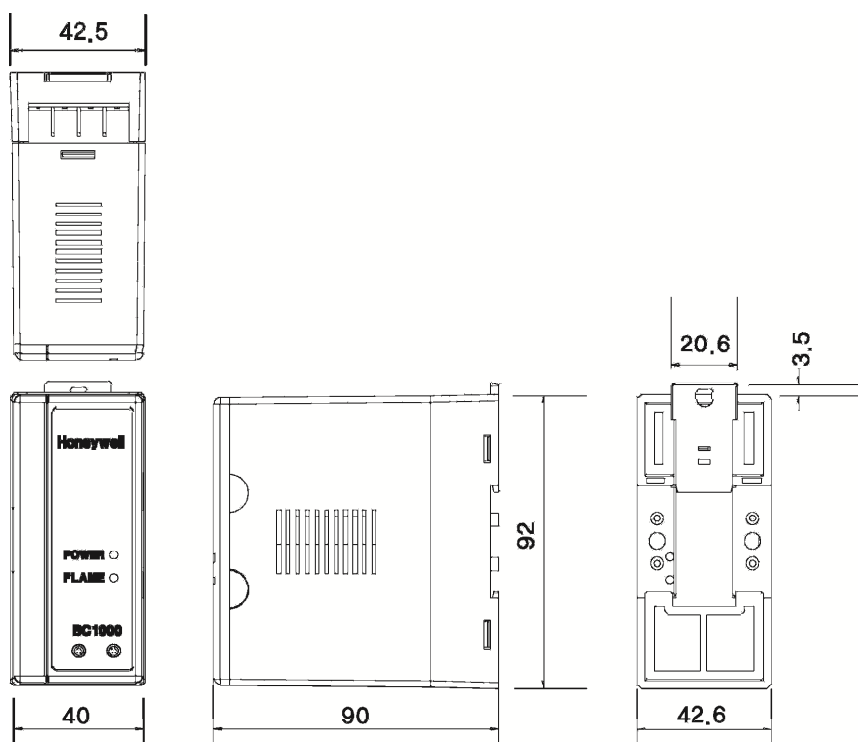
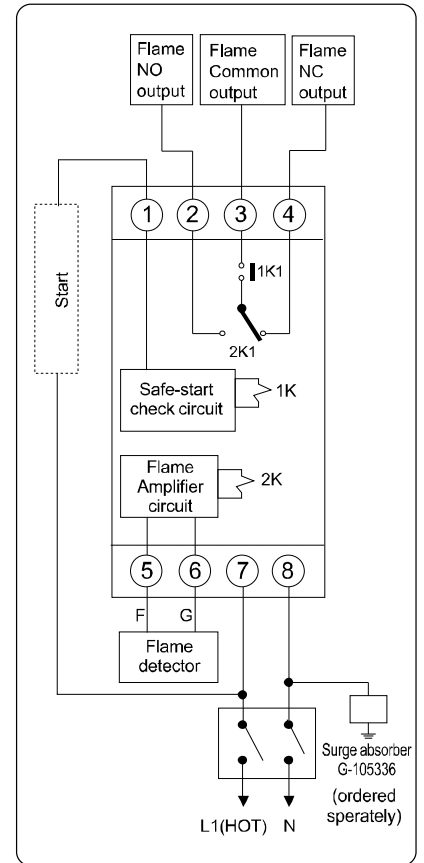

Fig. 2: External Dimensions (in mm)
Fig. 5: Example of wiring to external devices
- 1) Fig. 5 is an example of typical wiring diagrams. Refer Fig. 2 for terminal location
a. Manual Ignition System with Intermittent Pilot (refer to Fig. 5 ①Manual Ignition)
1. If flame is detected before safe-start check is completed, operation is put on hold until the flame signal disappears. (① in upper table)
2. If flame is lost during RUN, the flame relays are de-energized. (②③ in upper table)
3. Pilot flame establishing period(PFEP) should comply with the application standards. (④ in upper table)
b. Flame Monitoring System (normal operation, refer to Fig. 5 ②Flame Monitoring)